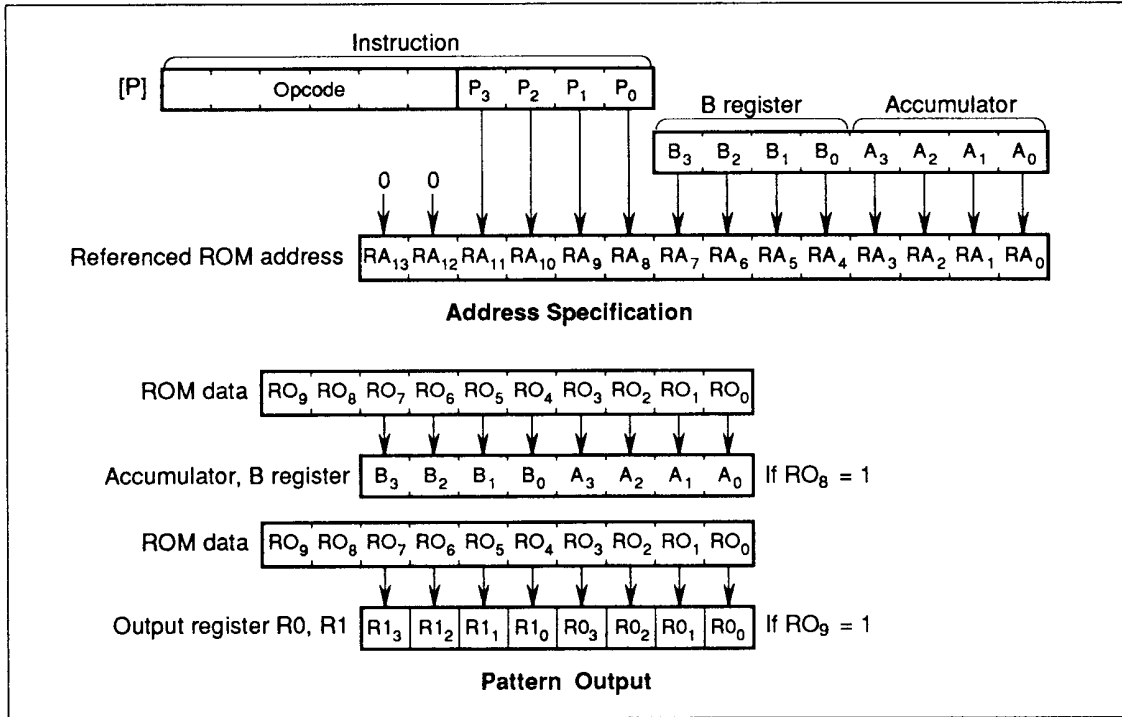

Figure 48 P Instruction
**P Instruction:** ROM data addressed in table data addressing mode can be referenced with the P instruction as shown in figure 48. If bit 8 of the ROM data is 1, eight bits of ROM data are written to the accumulator and the B register. If bit 9 is 1, eight bits of ROM data are written to the R0 and R1 port output register. If both bits 8 and 9 are 1, ROM data is written to the accumulator and the B register and also to the R0 and R1 port output register at the same time.